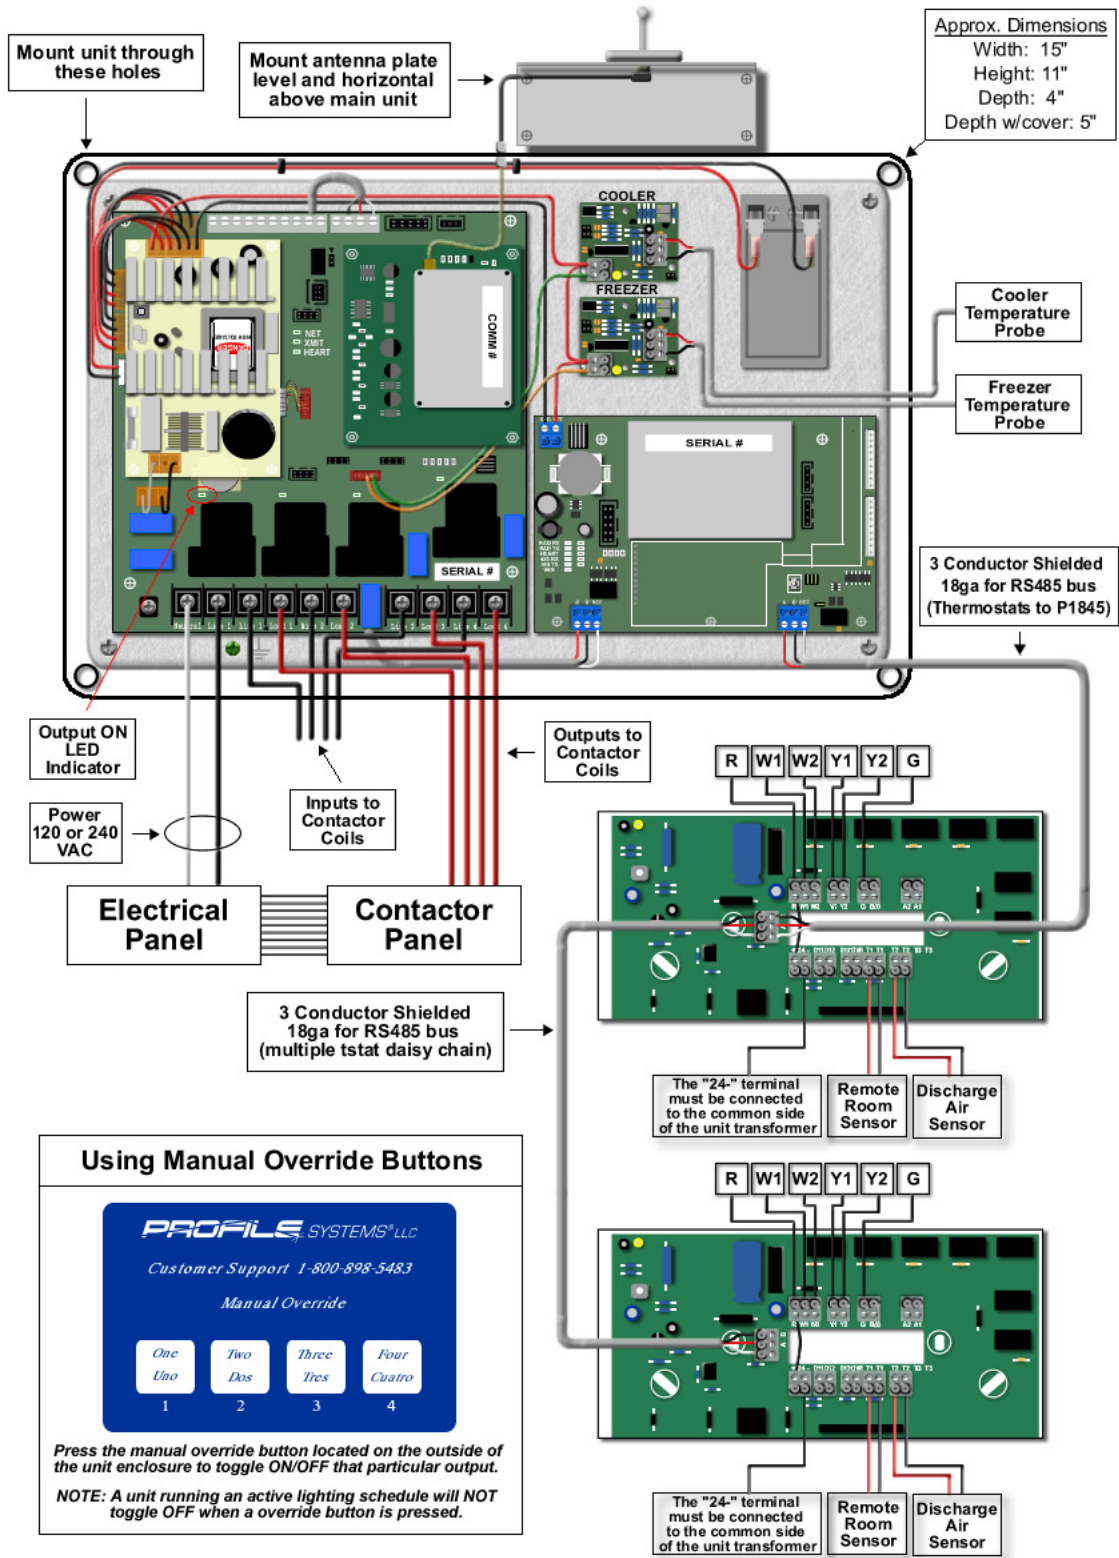

Fig. 1
1. **Mount the P1800 master unit through the corner holes (refer to Fig. 1) in a manner that satisfies the following criteria:**